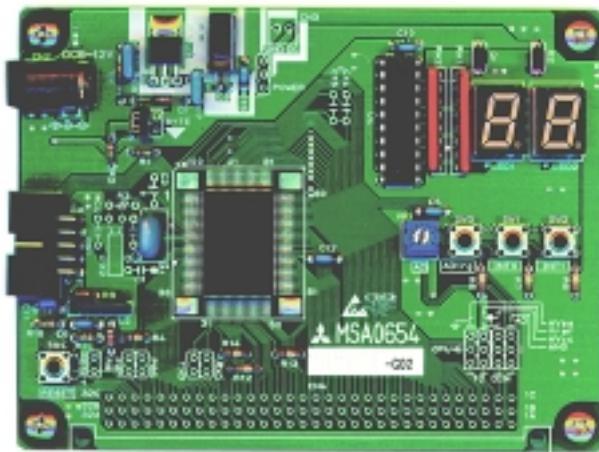

Figure 1—MSA0654 board
MSA0654 board (figure 1) comes with a serial cable with RS232C driver that connects 9-pin D-SUB to 2.54mm pitch 10-pin. The software package includes (1) Compiler: KNC30WA (2) Control software: KD30 (3) Target board Flash Memory programming software